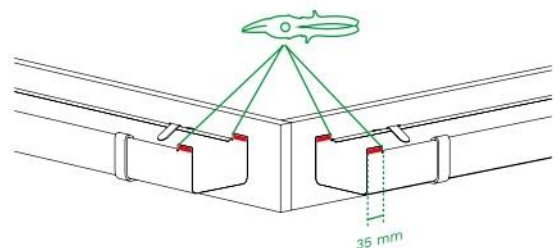

Figure 20
- 5.3. Make notches on the front and rear gutter drips, at a distance of 35 mm from the gutters ends. Straighten the drips (**Fig. 20**).